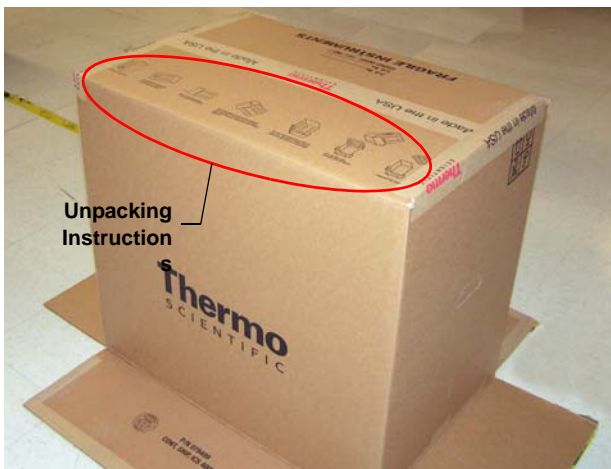

Figure 2-1. Shipping Container with Bottom Flaps Opened
1. Follow the instructions printed on the shipping container to turn the container on its side, open the bottom flaps, and turn it right-side up again (see Figure 2-1).